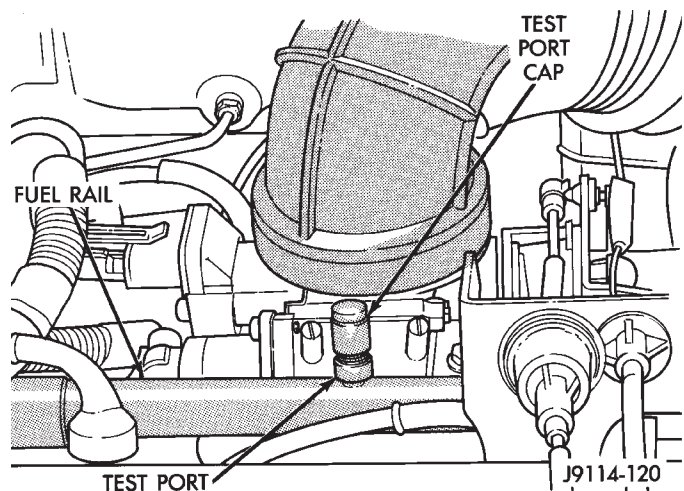
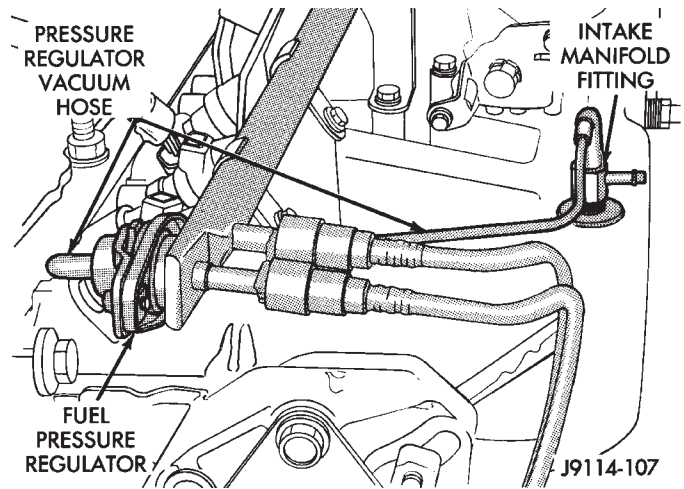
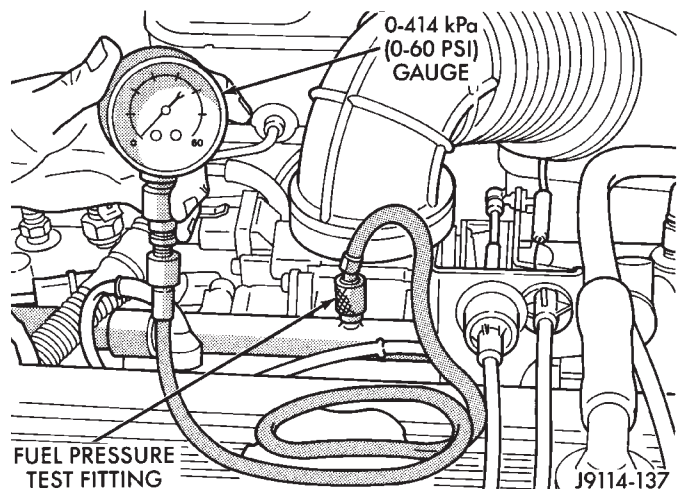

Fig. 5 Pressure Test Port—4.0L Engine
Fig. 7 Fuel Pressure Regulator—4.0L Engine
Fig. 9 Fuel Pressure Test Connection—4.0L Engine
- (3) Remove protective cap from pressure test port on the fuel rail (Figs. 5 or 6).
The fuel system is equipped with a vacuum assisted fuel pressure regulator (Figs. 7 or 8). With engine at idle speed, system fuel pressure should be approximately 214 kPa (31 psi) with the vacuum line connected to the regulator. With the vacuum line disconnected from the regulator, fuel pressure should be approximately 269 kPa (39 psi). This is 55-69 kPa (8-10 psi) higher.
(1) Remove the protective cap at the fuel rail (Figs. 5 or 6). Connect the 0-414 kPa (0-60 psi) fuel pressure gauge (from Gauge Set 5069) to test port pressure fitting on fuel rail (Figs. 9 or 10).
(2) Note pressure gauge reading. Fuel pressure should be approximately 214 kPa (31 psi) at idle.
(3) Disconnect vacuum line at fuel pressure regulator (Figs. 7 or 8). Note gauge reading. With vacuum line disconnected, fuel pressure should rise to approximately 269 kPa (39 psi).